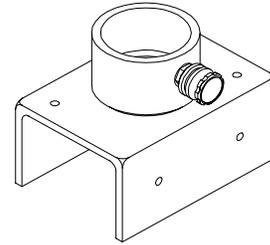

Figure 1-11. 4" (10.2 cm) x 4" (10.2 cm) Channel Base
h. **4" (10.2 cm) x 4" (10.2 cm) Channel Base.** The 4" (10.2 cm) x 4" (10.2 cm) channel base (Figure 1-11) is essentially a 3" (7.6 cm) standard base secured to a 4" (10.2 cm) x 4" (10.2 cm) channel. The channel is 6" (15.2 cm) long x 2-3/4" (7.0 cm) high x 3-1/2" (8.9 cm) wide. The channel base is designed specifically for shoring operations. It fits snugly over 4 x 4 shoring lumber where it can be anchored with screws or nails.